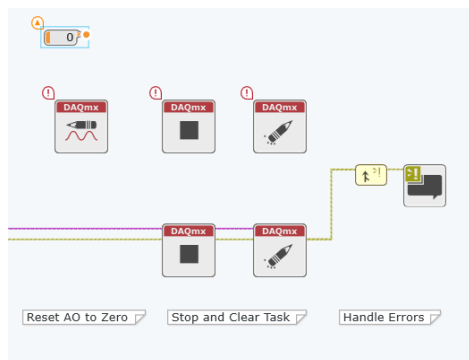

Figure 7-18 The flow of DAQmx code almost always follows the same pattern
31. Drag the following VIs from the DAQmx palette and place them as shown in Figure 7-18.
7. Like in the previous section of this exercise, drag the following VIs onto the block diagram and place them like you see in Figure 7-18.